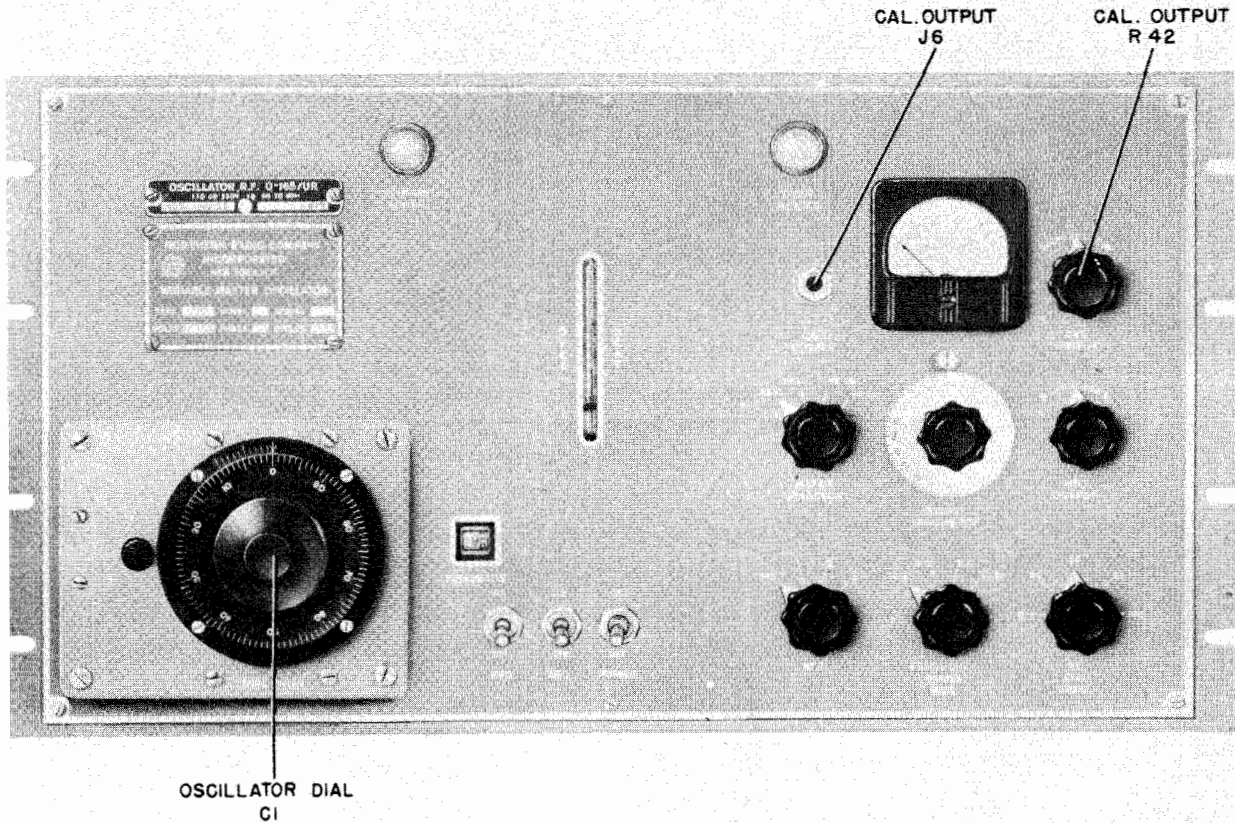

Figure 3-2. RF Oscillator O-165/UR, Front View, Pre-Operation Adjustments
b. CALIBRATION OF VARIABLE OSCILLATOR. (See figures 3-2 and 3-3.)—To calibrate the variable oscillator against the crystal oscillator for the entire range of the oscillator, adjust the CAL OUTPUT con-